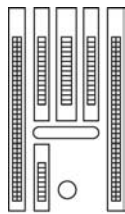

Fig. 2
- Re-position driving shaft 5 together with the two cylindrical bolts 4 and 6 sideways without play, until there is a clearance of 3.0 mm at the left side, as described in „Requirement“ (fig. 2).